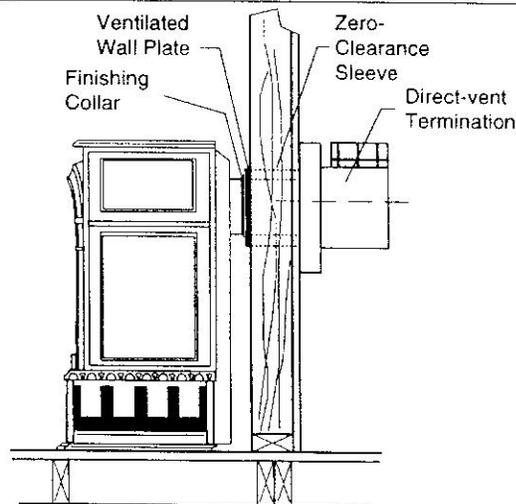

Figure 2-8. Side view, PDV20 Heater with Rear Vent Kit 7TFSDVRSK. Maximum horizontal run may be 20" (508 mm).
- The maximum horizontal run straight from the stove to the sidewall termination is 20" (508 mm). See Fig. 2-8.
It is very important that the venting system maintain its balance between the combustion air intake and flue gas exhaust. The installation must meet certain limits as to vent configuration. Figure 2-8 on Page 6 shows the minimum vent layout for a straight-back installation, with the heater parallel to the exterior wall.